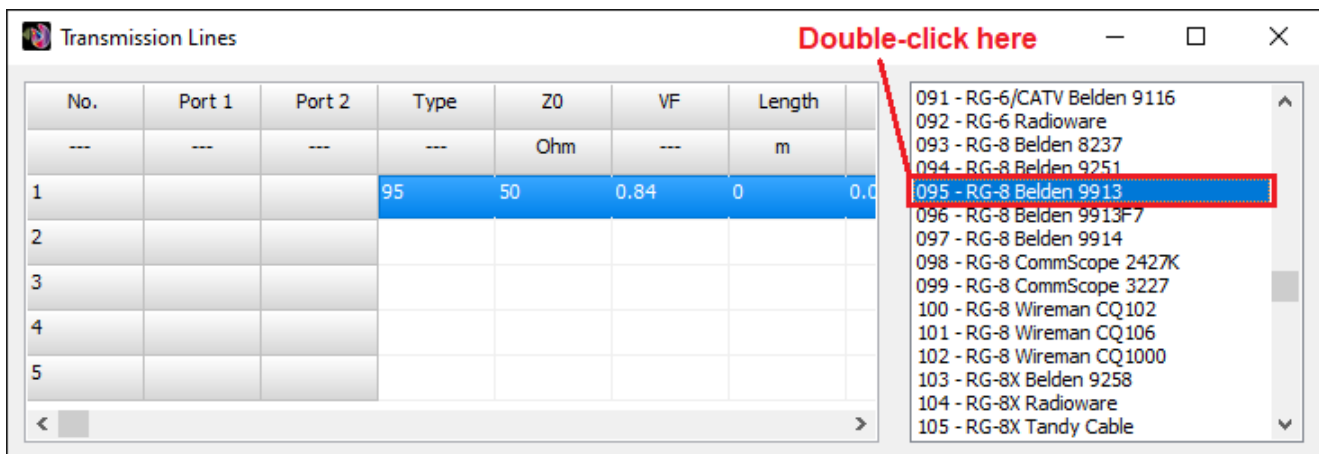

Fig. 3: On the right panel, double-click on the chosen line type to automatically complete the selected row.
- On the right-hand panel, choose a type of transmission line and double-click on your chosen type. The selected row will be automatically completed, Fig. 3.